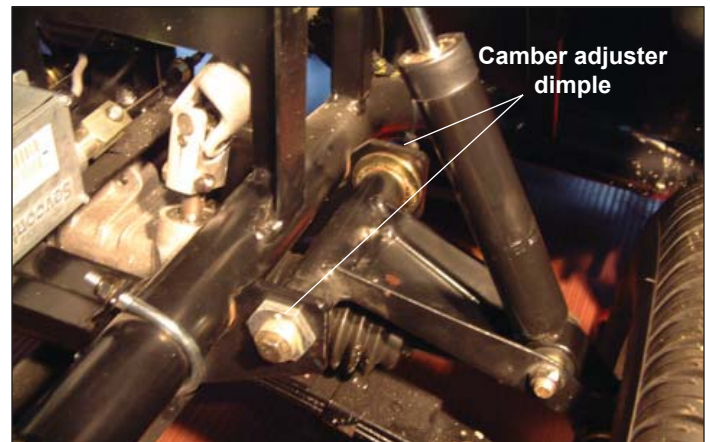

Figure 6-13. Camber Adjusters
1. Each camber adjuster has a dimple in the same position (Figure 6-13). Check that both camber adjusters (dimples) are set in the same position.